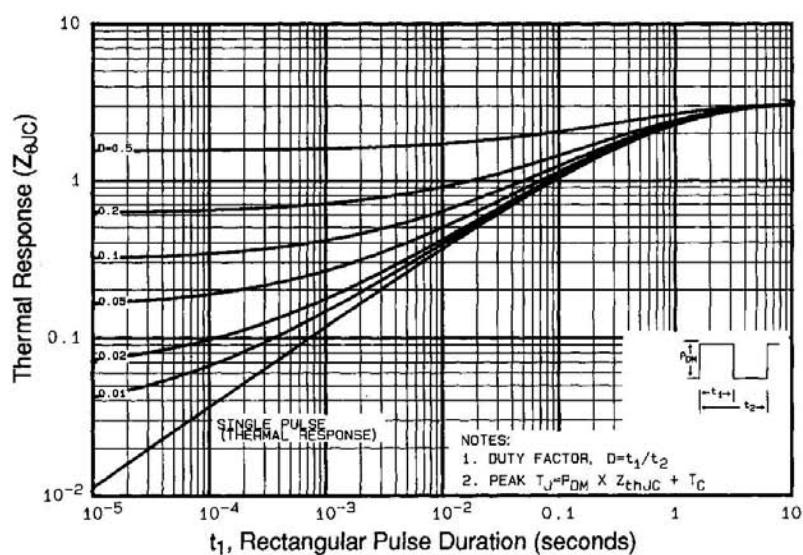

Fig 11. Maximum Effective Transient Thermal Impedance, Junction-to-Case
- ① Repetitive rating; pulse width limited by max. junction temperature (See Figure 11)
- ③ $I_{\text{SD}} \leq 10\text{A}$, $dI/dt \leq 120\text{A}/\mu\text{s}$, $V_{\text{DD}} \leq V_{(\text{BR})\text{DSS}}$, $T_J \leq 150^\circ\text{C}$
- ⑤ $t=60\text{s}$, $f=60\text{Hz}$
- ② $V_{\text{DD}}=50\text{V}$, starting $T_J=25^\circ\text{C}$, $L=23\text{mH}$